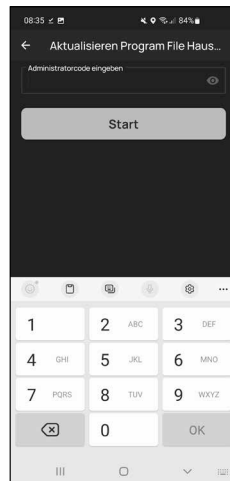

Fig. 8
- ⑨ Here you will be asked to verify yourself with your administrator code. Enter the code and confirm with "Start" (Fig. 8).